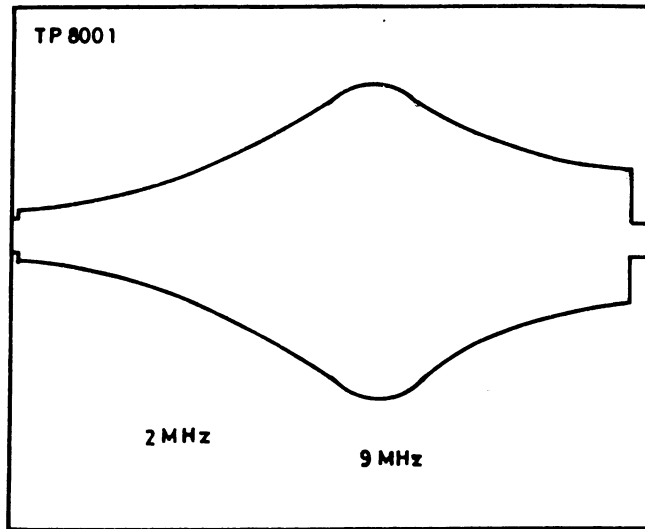

Fig. 11.18
6. Now adjust Peak Frequency Control C 3031 & C 3032 for channel 1 & 2 so that the peak on the oscilloscope becomes 4.9 MHz as shown fig. 11.18.